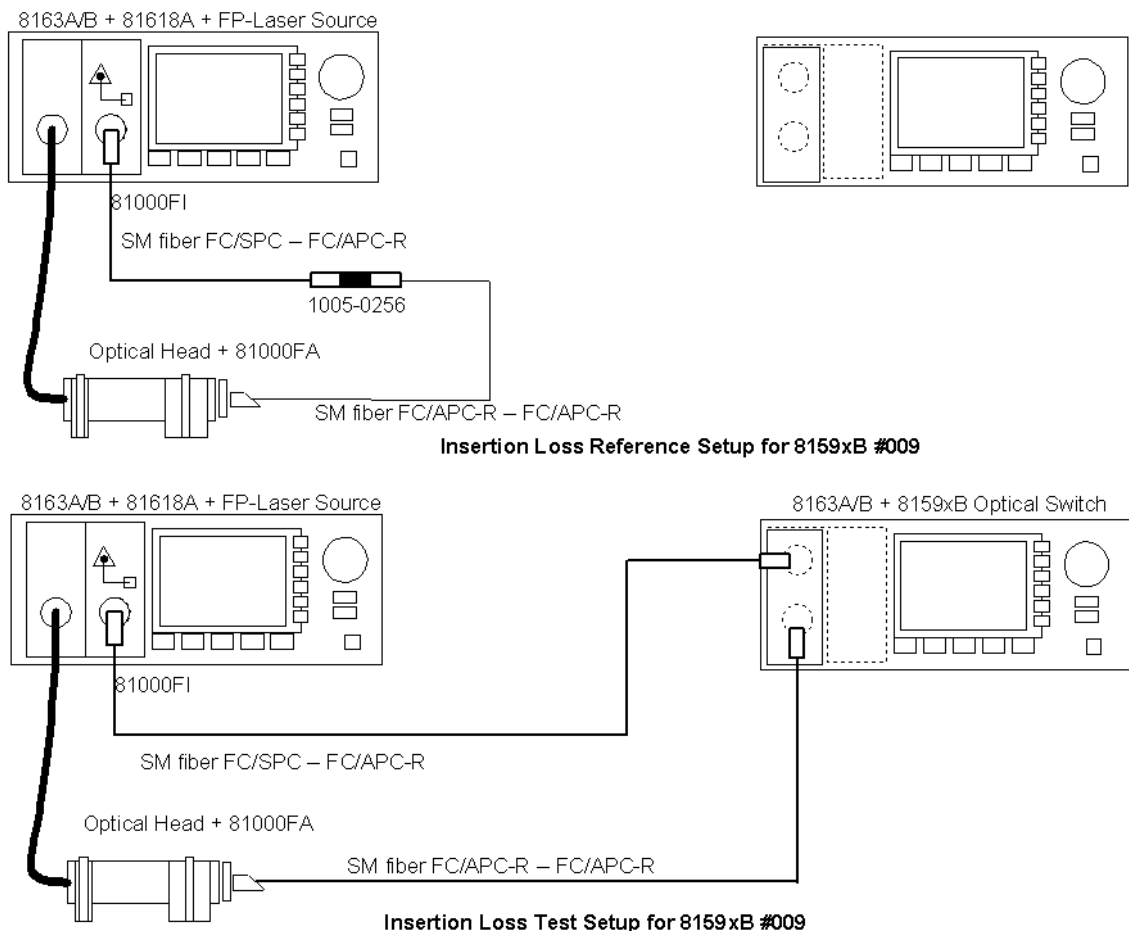

Figure 13 Insertion Loss Reference Setup
- 4 Connect the equipment as shown in Figure 13.